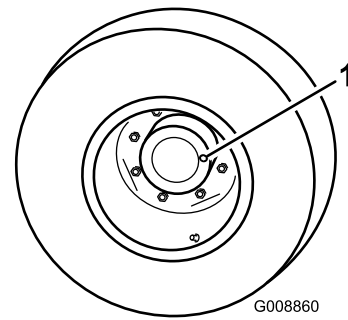
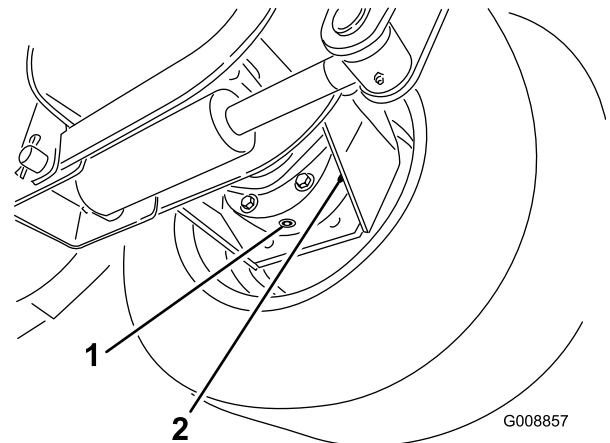

Figure 72
Figure 73
1. With the machine on a level surface, position the wheel so that the check/drain plug (Figure 72) is at either the 3 or 9 o'clock position.
2. Remove the check plug on the planetary (Figure 72) and on the brake housing (Figure 73). Gear oil should be within 1/8 inch of the check plug on the brake housing and the planetary.
3. Place a drain pan under the brake housing on the other side of the wheel (Figure 73).